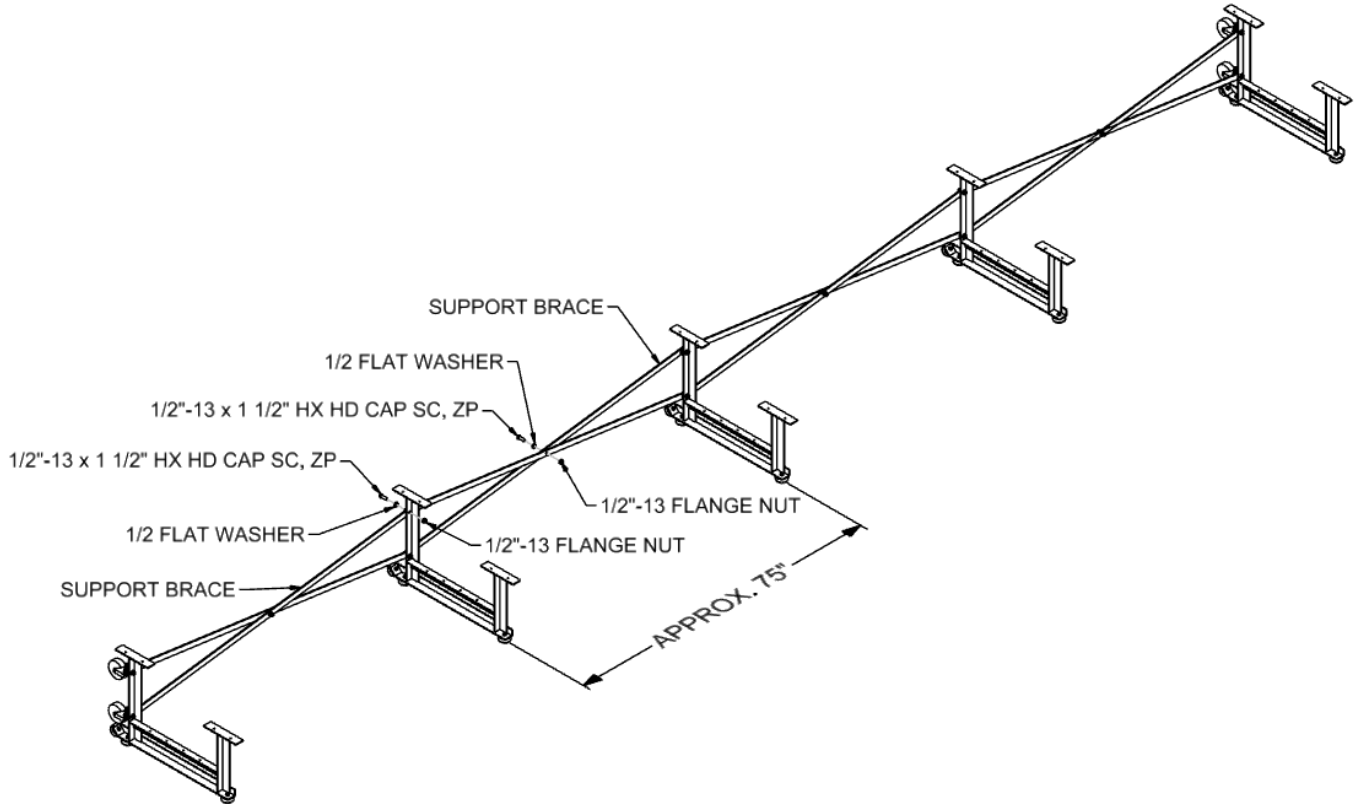

FIGURE: 3
3. Assemble undercarriage frame as shown in figure 3. Vertically plumb and square each leg before tightening cross-bracing hardware.